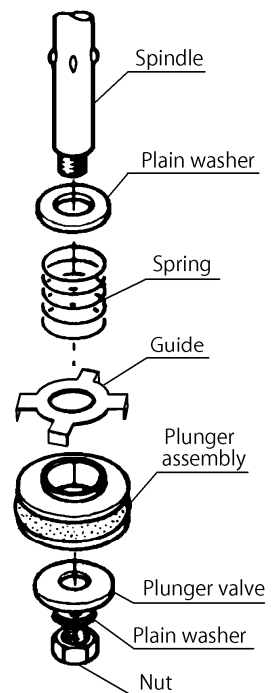

Fig.7
- 7) Unscrew nut on the end of spindle; then spring washer, plunger valve, plunger assembly, guide, spring, and washer will be separated from spindle. (Fig.7)